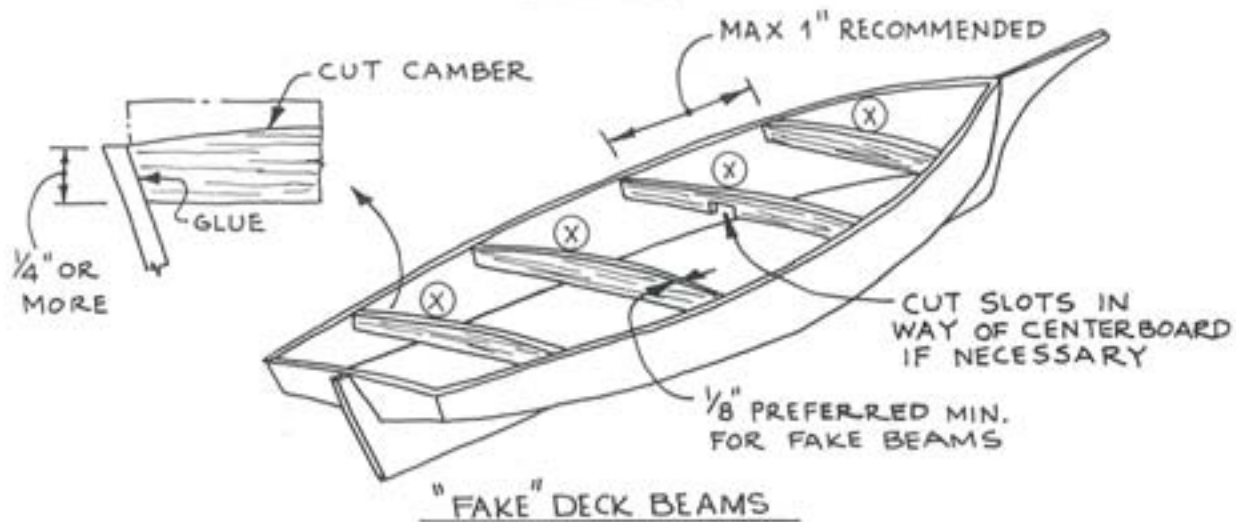

FIG 20
**Non-Scale or "Fake" Framing** — See Figure 20. Install as many fake deck beams, X, as you desire but suggest that they be no more than one inch apart to provide a firm base for the deck plank. Be sure to leave space for the centerboard. Should be no problem, however, since the centerboard should be in the down position. Remove the temporary struts added earlier.